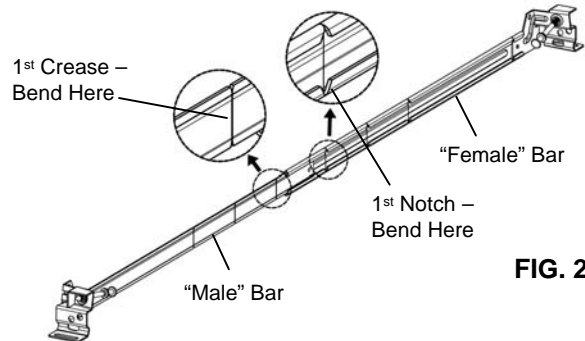

FIG. 2
2. Spread the bars as wide as possible. (FIG. 2)
3. For each hanger bar, bend the "male" bar, back and forth at the 1st crease from the center until it splits. Bend the "female" bar, back and forth, at the 1st notch from the center until it splits. (FIG. 2)